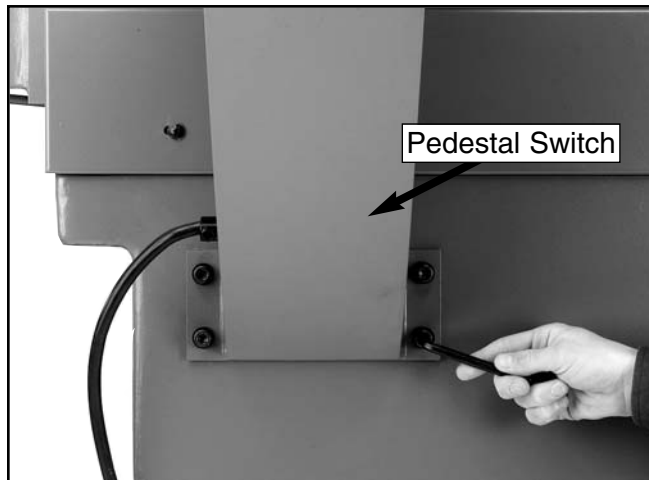

Figure 13. Attaching pedestal switch.
Attach the pedestal switch (**Figure 13**) to the back of the base with (4) M10-1.5 x 25 cap screws and (4) M10 flat washers.